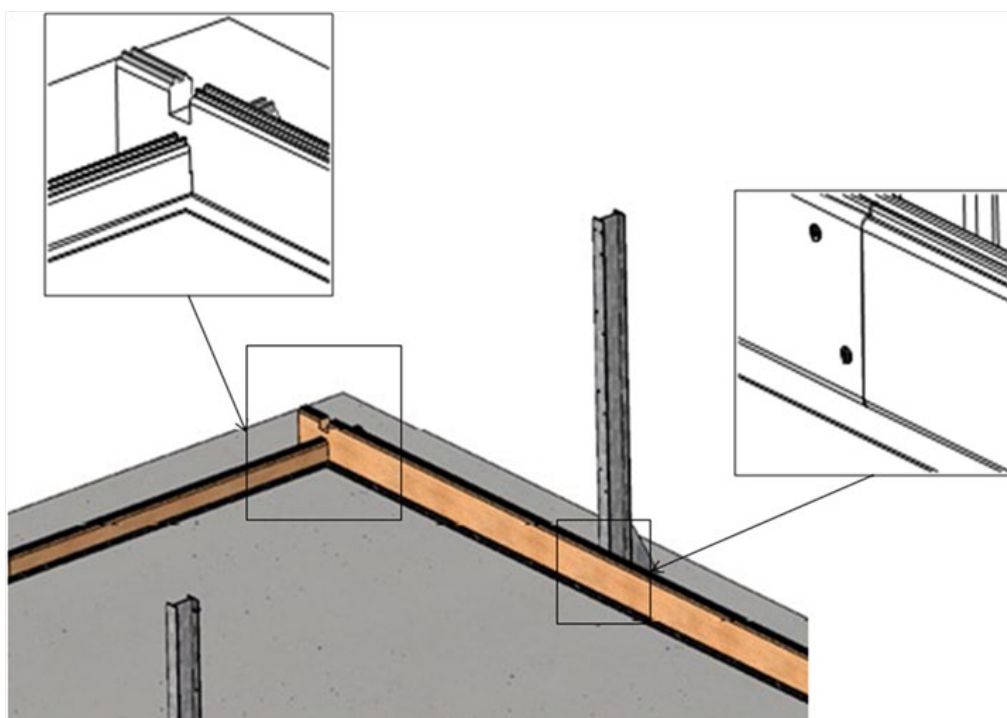

Figure 10 – Screwing the slats together
- referring to *Figure 10*, screw the slats together using 2 screws per pair of slats in each of the 10 rows, that is, 80 countersunk screws 5 × 40 A4 SS torx threaded over 25 mm (bag C) ;